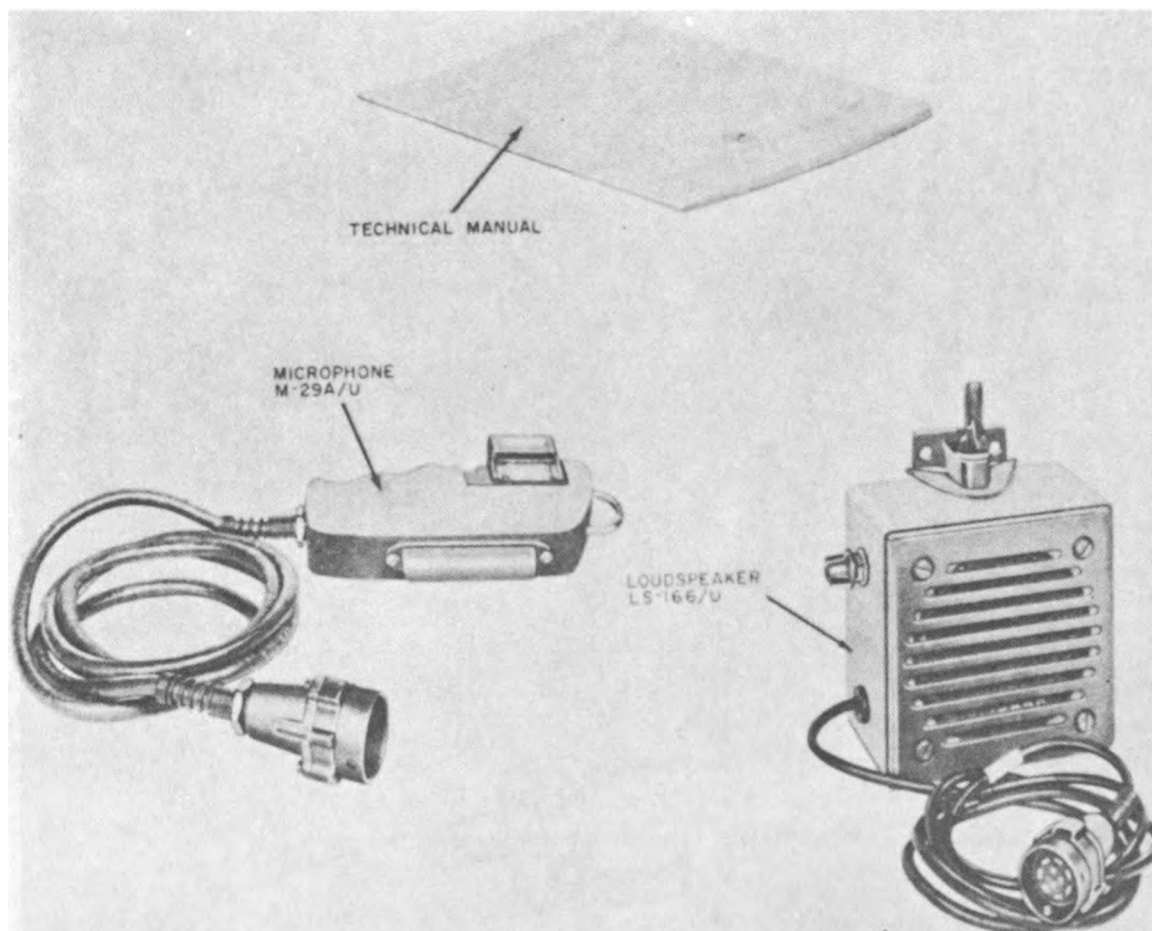

Figure 11. Microphone, technical manual, and loudspeaker.
c. *Loudspeaker* (fig. 11). The loudspeaker is a 4-inch unit. A 5-foot cord that terminates in a 10-pin plug is used to connect the loudspeaker to an AUDIO receptacle on the RT-
d. *Microphone M-29A/U* (fig. 11). The microphone element is housed in a plastic case. A push-to-talk switch is located on the side of the case. A connecting cord terminated in a 10-pin plug is used to connect the microphone to an AUDIO receptacle on the RT-323/VRC-24, RT-441/TRC-68, or radio set control.